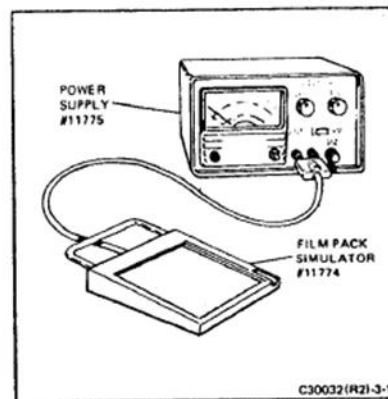

FIGURE 3-1 FILM PACK SIMULATOR AND POWER SUPPLY
1. Power Supply and Pack Simulator (Figure 3-1)